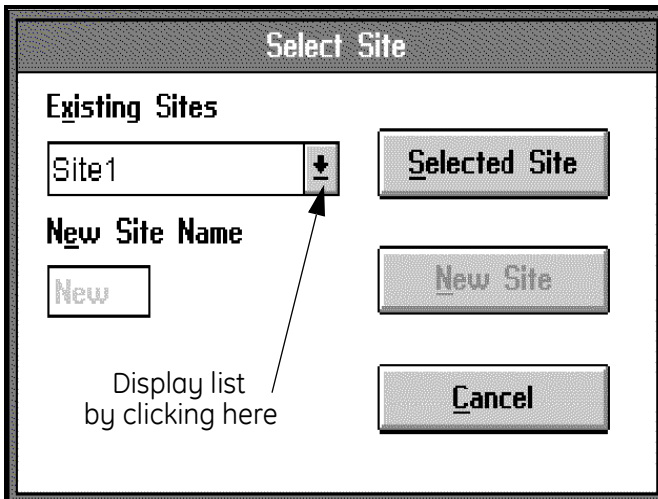

Figure 6-2: Upload Site Selection
1. Select **Upload Site to PC Disk** command (**ALT+U** and **ALT+U**). A window similar to the one shown in Figure 6-2 on page 6-2 appears.